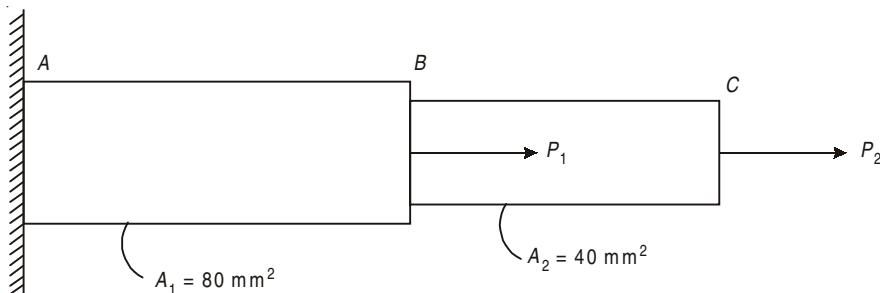

Fig. 1.21
- 1.23.** A bar of variable cross-section rigidly fixed at one end is subjected to two concentrated loads P_1 and P_2 , as shown in Fig. 1.21. If $P_1 = 60 \text{ kN}$ and $P_2 = 45 \text{ kN}$, $A_1 = 80 \text{ mm}^2$ and $A_2 = 40 \text{ mm}^2$. Find the maximum stress.